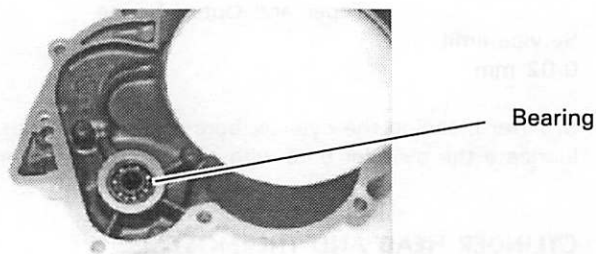

Figure 83
4. Inspect the bearing (Figure 83) for wear and damage. Replace the oil seals and bearing as follows: